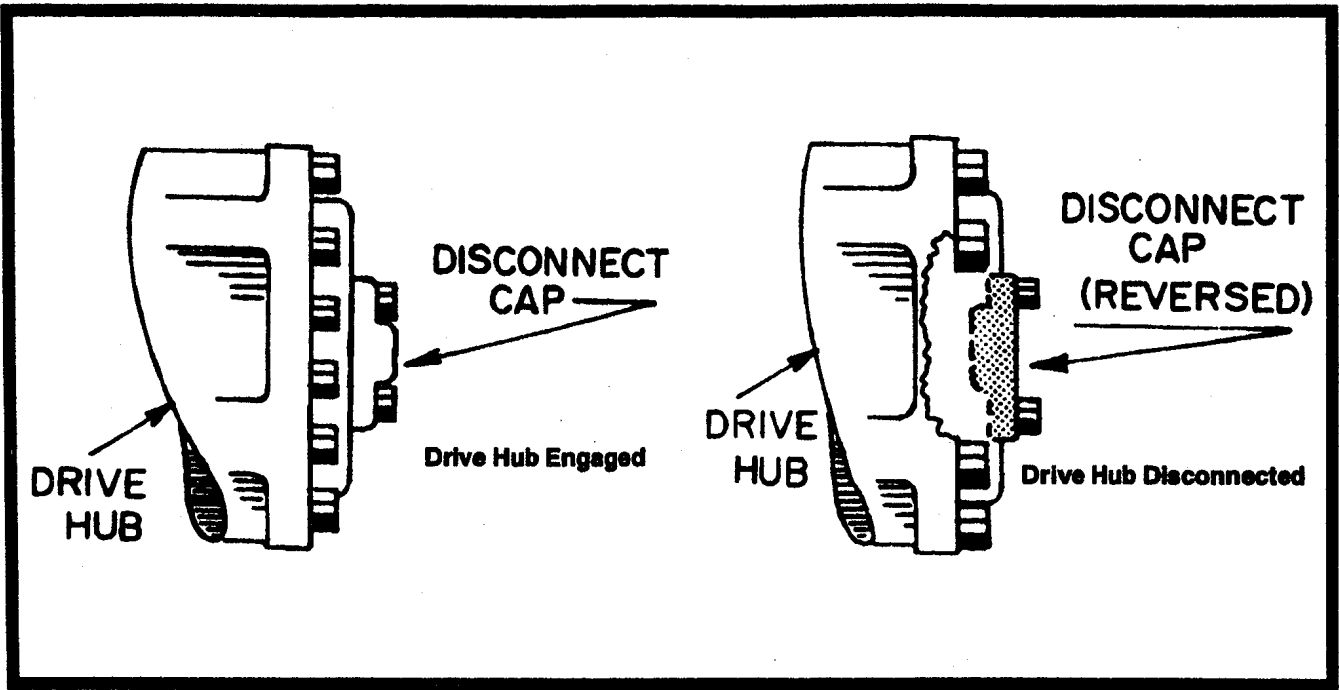

Figure 4-2. Drive Disconnect Hub.
- (1). Retract, lower and position boom over rear drive wheels in line with direction of travel; lock turntable.
- (2). Connect towbar to steering hitch with attach pins, and towbar to towing vehicle.
- (3). Disconnect drive hubs by inverting disconnect cap. (See Figure 4-2.)
- (4). Actuate steer/tow selector valve for towing; pull valve knob OUT to float position. (This opens the steer circuit to reservoir, allowing the steer cylinder rod free travel.) The machine is now in the towing mode.
- (1). Actuate steer/tow selector valve for steering; push valve knob IN to the actuated position.
- (2). Reconnect drive hubs by inverting disconnect cap. (See Figure 4-2.)
- (3). Disconnect towbar from steering hitch and from towing vehicle. The machine is now in the driving mode.